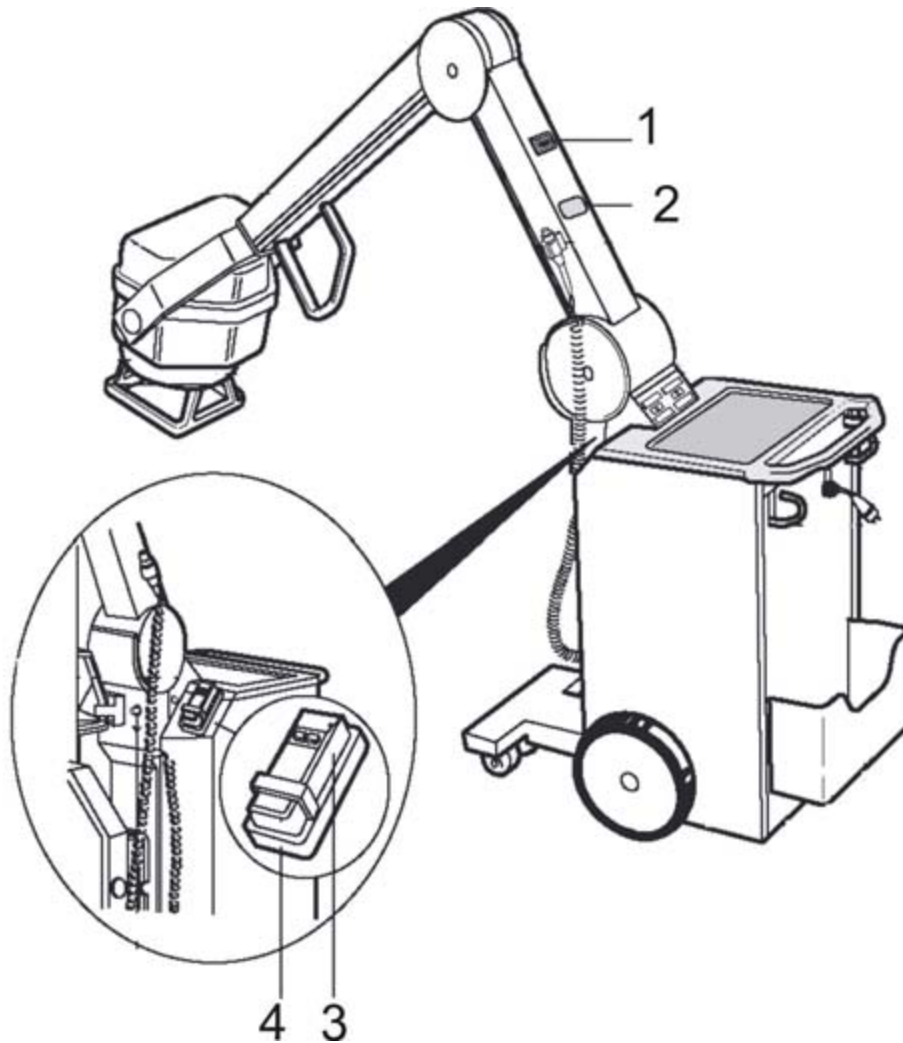

Fig. 2: View of the unit
Installation of the receiver sensor (1/Fig. 2 / p. 6), the remote switch holder (4/Fig. 2 / p. 6), and the internal cabling with the remote control board.
- If a DAP control is installed, unplug the connector at the display to prevent damage (2/ Fig. 2 / p. 6).
- Tape the remote switch holder to the front left side (4/Fig. 2 / p. 6).
- Place the remote switch with battery indicator (1a/Fig. 1 / p. 5) into the holder (3/Fig. 2 / p. 6).